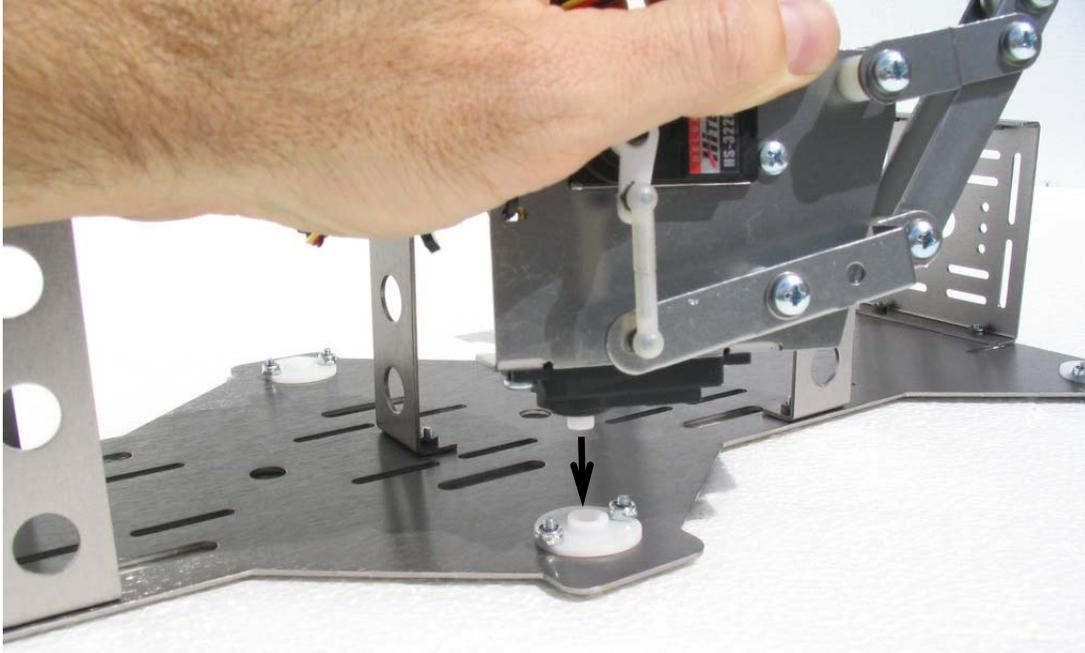

Figure 34: Installing a Completed Leg Assembly
3. Take a completed leg assembly and insert the legs upper round servo spindle into the upper decks round servo arm as shown in Figure 34.